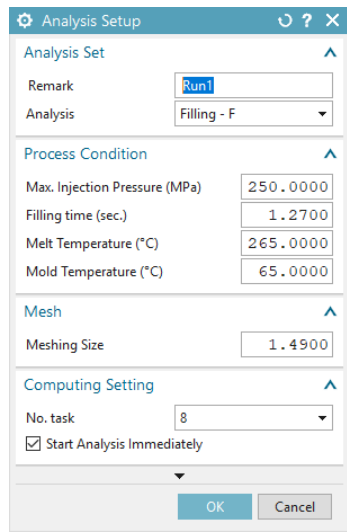

Figure 15-77 The *Analysis Setup* dialog box
1. Choose the **Start Analysis** tool from the **Setting** group to start the analysis of the model; the **Analysis Setup** dialog box is displayed, refer to Figure 15-77.